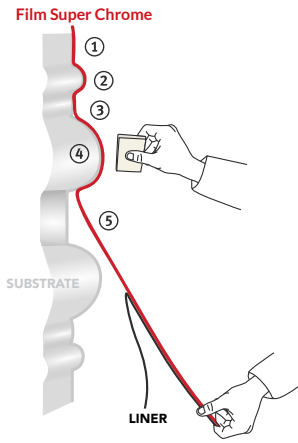

Figure 06
- › Gradually remove the liner while pulling it downward. (FIG. 06)